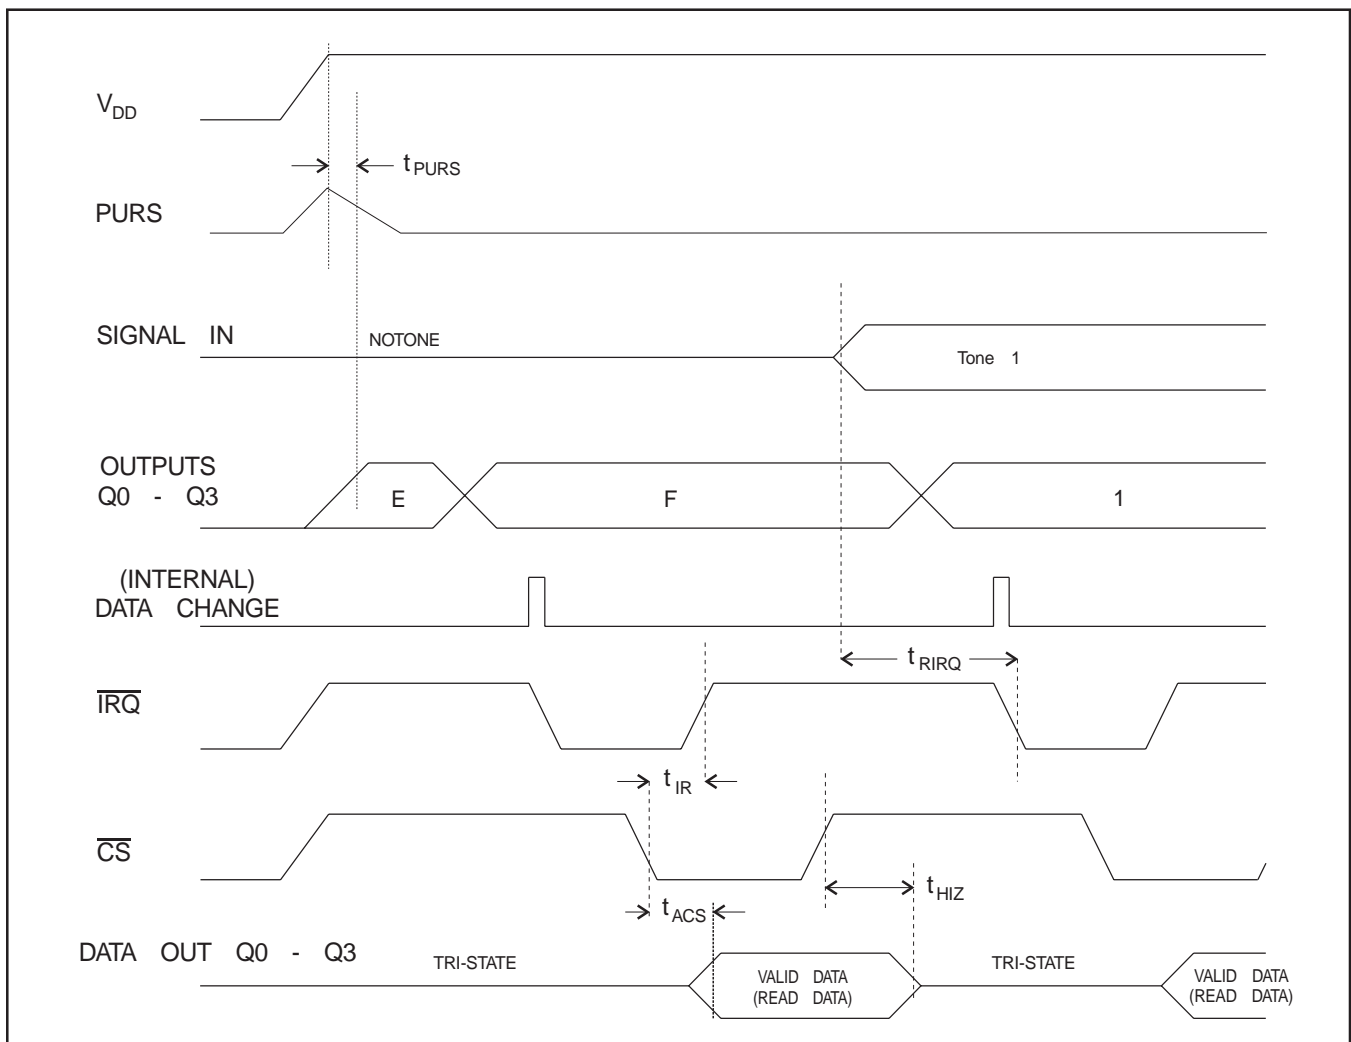

Figure 4 - Timing with the HOLD Input Held "High";  $\overline{CS}$  and  $\overline{IRQ}$  are used
*With the Hold input held High - Figure 4*